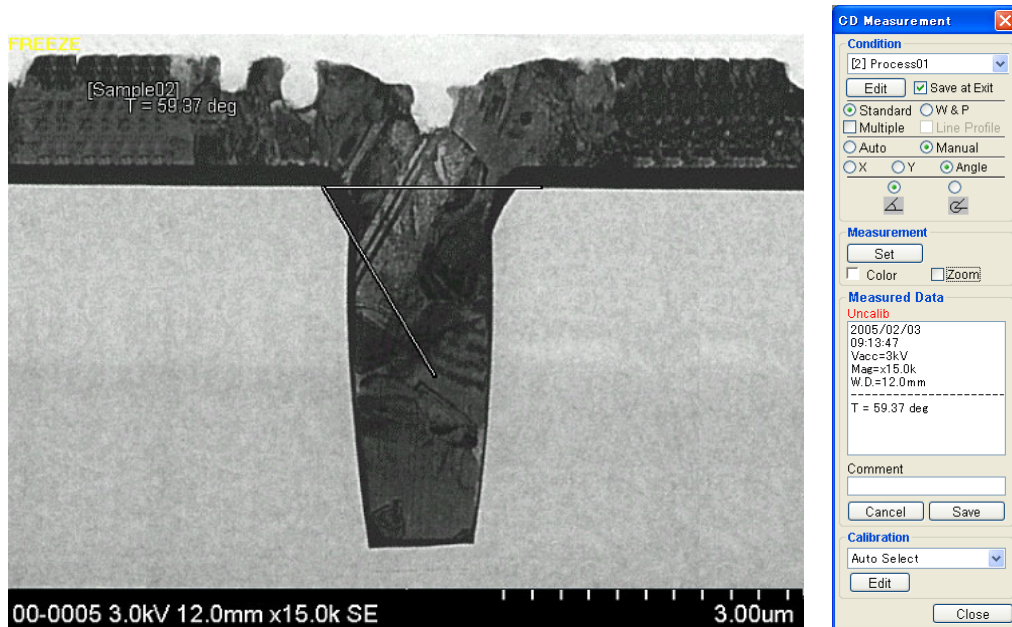

Fig. 6.4-22 Angle Measurement Result
- (f) Drag the cursor with the mouse and align it with the part to be measured, then click **Enter** button. Angle measurement can thus be done as in Fig. 6.4-22. Calibration is not performed in the case of angle measurement.